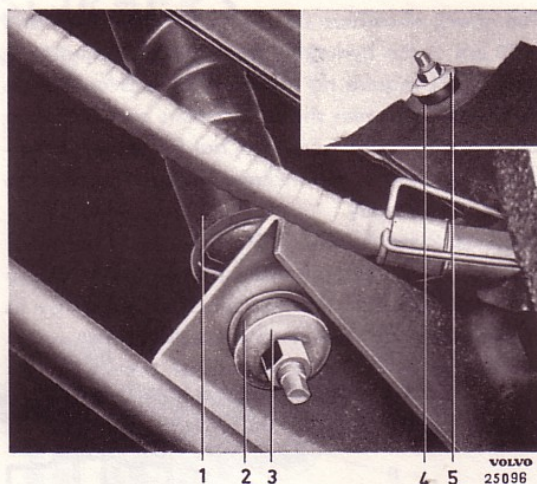
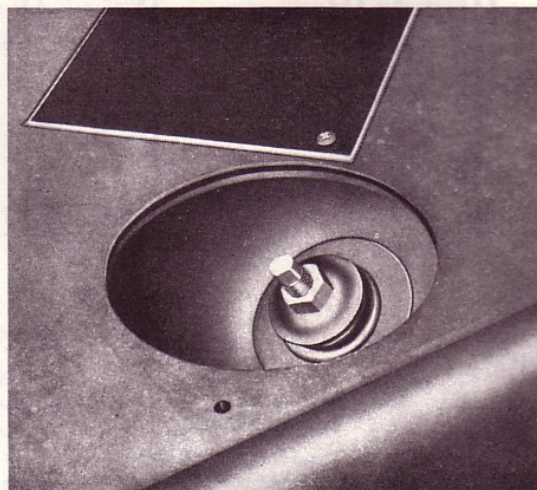

Fig. 10. Attachment of rear shock absorber, 120
Fig. 11. Upper attachment of rear shock absorber, 1800
1. Remove the upper attaching nut, washer (5, Fig. 10) and rubber bush (4).
2. Remove the lower attaching nut, washers and rubber bush. See 2 and 3 (Fig. 10).
1. Remove the upper attaching nut, washer and rubber bush (120 model) from the luggage compartment (Fig. 10) and for the 1800 model through the hole (Fig. 11) in the hat shelf under the rear window.
3. Installing is in the reverse order to removal. See Figs. 10 and 11. For the 120 and 1800, place the washer with the larger hole on the inside of the lower rubber bush. Tighten the nuts in accordance with the instruction under "Installing the shock absorbers", page 11.